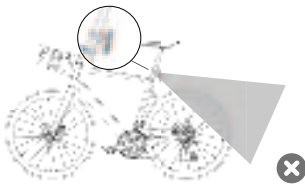

Figure 6
- The seatpost mount has a specific correct orientation. Installing it in the wrong direction will make the radar face the ground, failing to meet the requirements for vehicle monitoring. Please refer to Figure 6 for details. The radar coverage area is shown in the figure below.